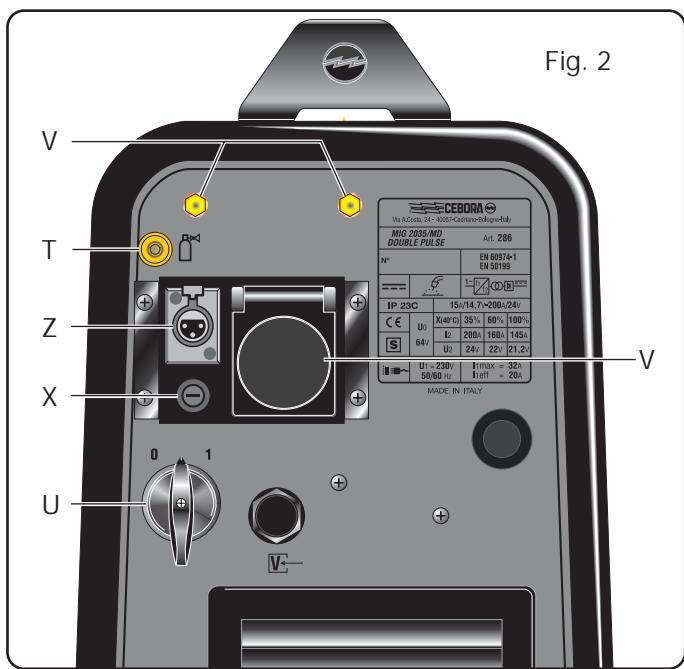

Fig. 2
3.3 MANDOS EN EL PANEL POSTERIOR (Fig.2)